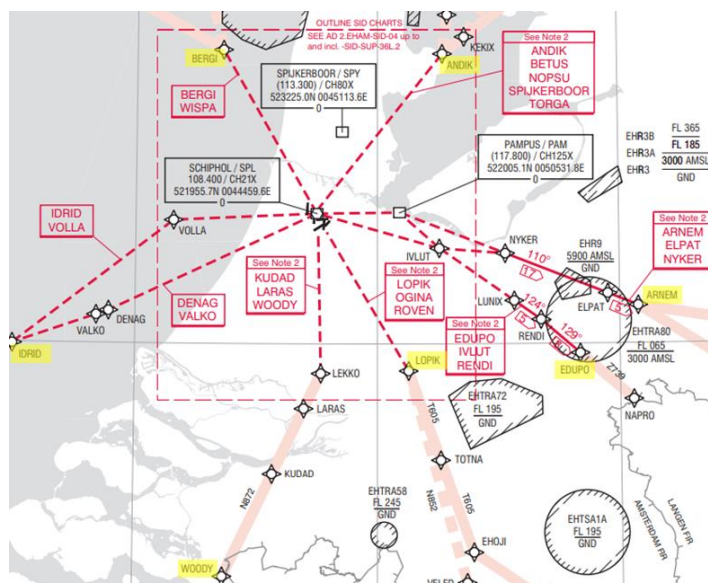

Figure 3 Chart depicting the exit points for Schiphol from AIP Netherlands, these are highlighted in yellow
1. Correct exit point for Schiphol (Figure 3)